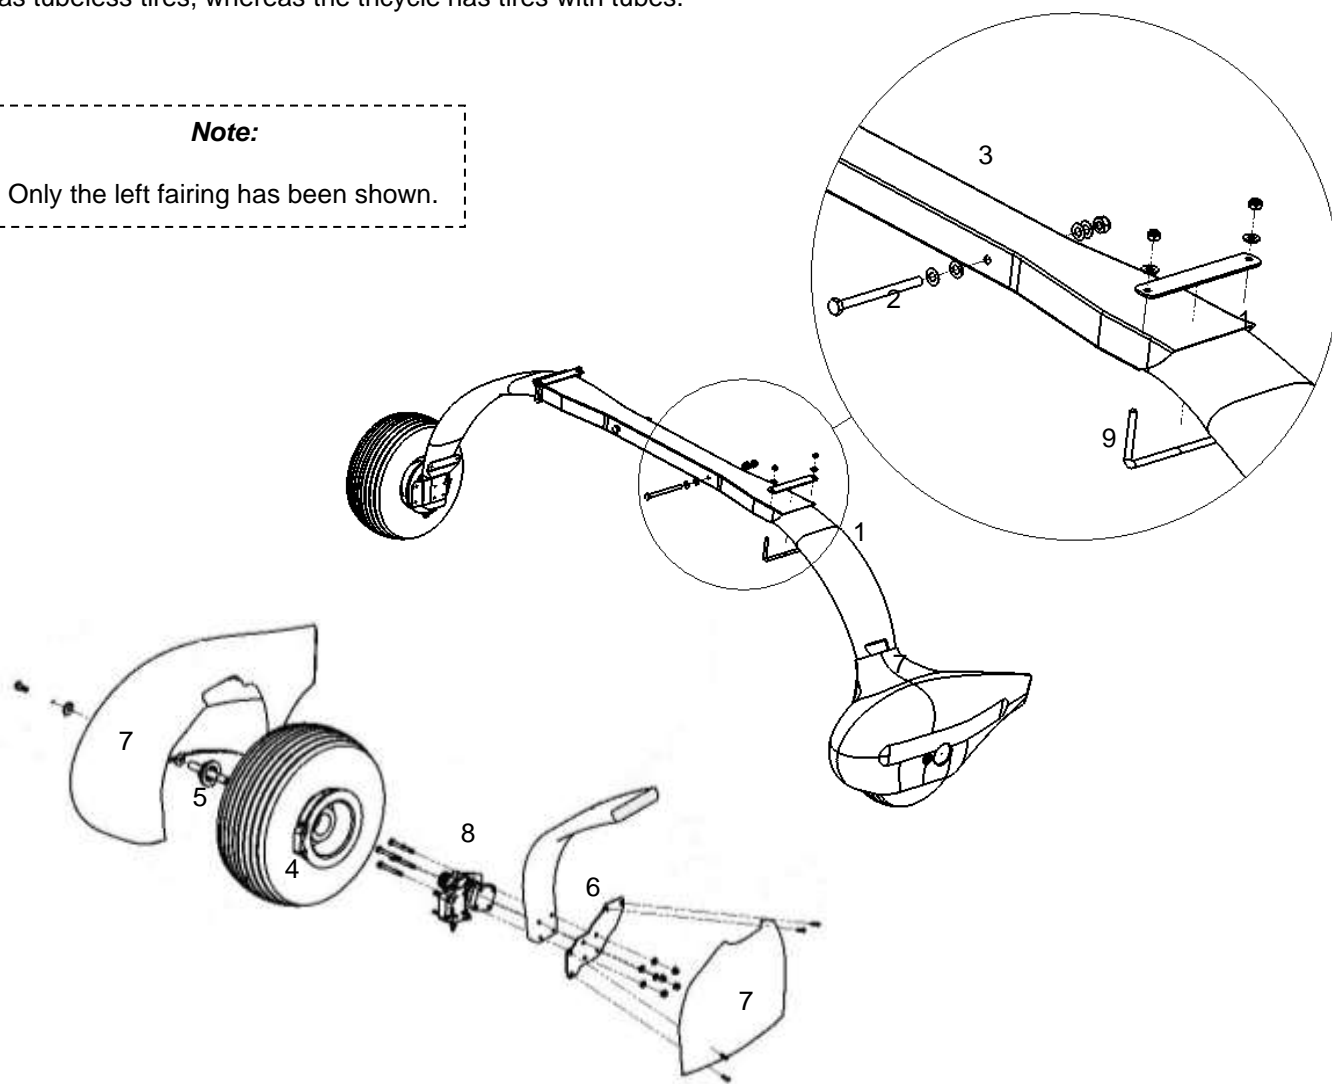

Figure 39: Main landing gear.
Refer to Figure 39 and paragraph 1.7. The main landing gear consists of two composite struts (1) attached (to the fuselage) each using an M10 pin (2) threaded through bushings laid into the struts. Suspension is provided by the flexibility within the struts, which is attached transversely via a slot (3) (designed for purpose) in the lower centre fuselage. Wheels (4) are cantilevered on the main gear struts (1) via axles (5). Mounting plates (6) allow for the attachment of the inner halves of the wheel fairings (7). The system features hydraulically actuated disc brakes (8) controlled by a lever located on the cabin centre console (between the seats). Each strut is also supported with a U-clamp (9).